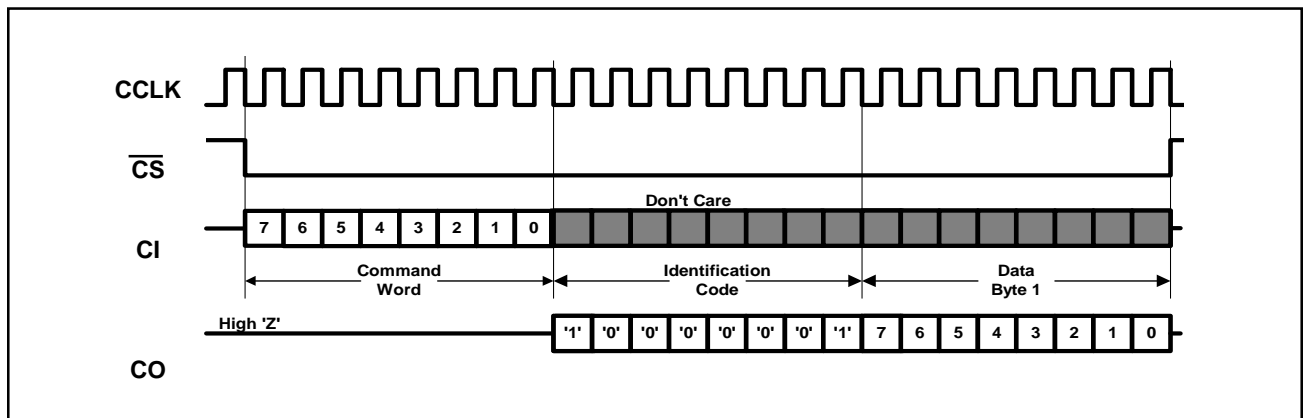

Figure 4. An Example of Serial Interface Read Mode (ID = 81h)
For each channel, NW1068 provides two debounce filter circuits: Debounced Switch Hook (DSH) Filter for CD1 and Ground Key (GK) Filter for CD2 as shown in Figure 4. They are used to buffer the input signals on CD1 and CD2 pins before changing the state of the SLIC Debounced Input CD1/CD2 Registers (Global Command 10 and 11), or, before changing the state of the GCI upstream C/I octet. Frame Sync (FS) is necessary for both DSH filter and GK filter.